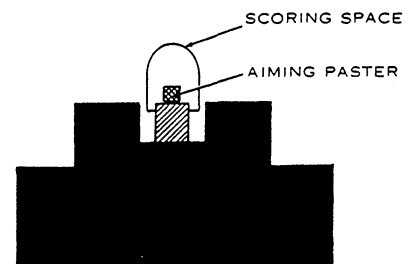

Figure 13-32.—Correct sight alignment and correct sight pictures.
**SIGHT PICTURE.**— With the sight properly aligned, obtain a 6 o'clock sight picture on the target (fig. 13-32). Always aim at the center base of the target for your initial burst of fire. When shooting at enemy personnel, aim at their beltlines.